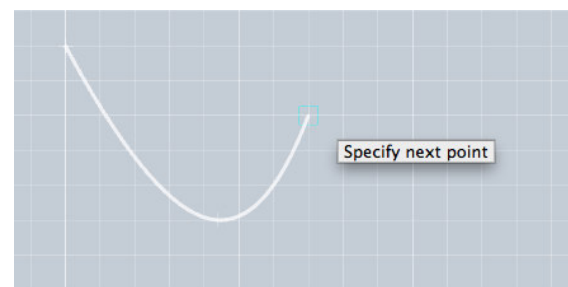

Figure 4-58 Move the mouse and click to see the curve
4. Move your mouse and click once more. You will now see the curve (Figure 4-58).